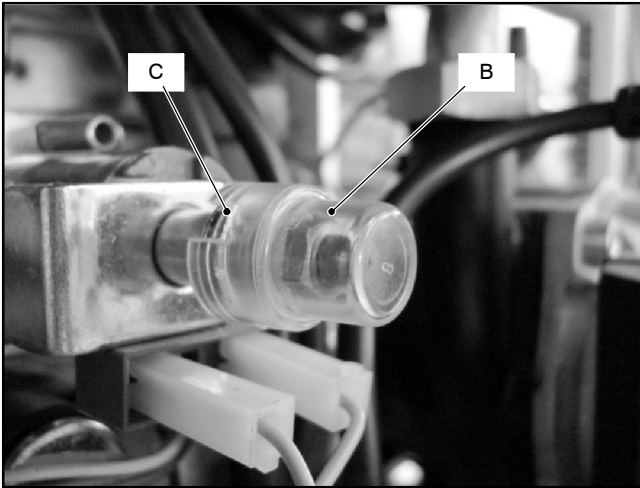

Fig. 55
- 5 Remove the protection cap B (Fig. 55) from the mechanical pressure adjustment components levering with a flat screwdriver in the slots C.